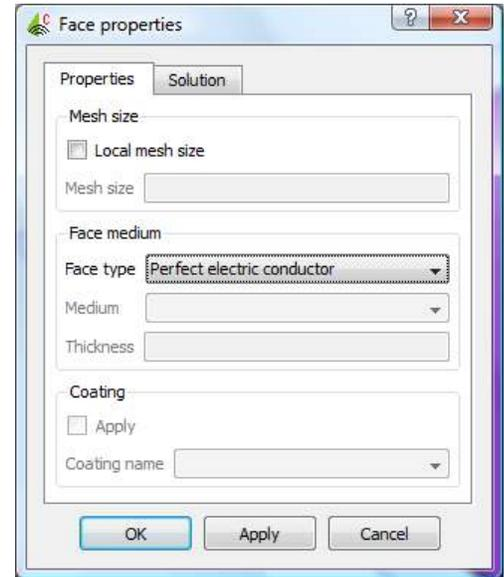

Figure 12.
15. After the “Union” function, the properties of the metals get changed to that of the volume; i.e becomes a dielectric. Thus, we need to change the properties of the Patch and GND faces to “PEC” again. To do this, from the side menu, Click on “Union1”, and then from the bottom menu, expand the “Faces” tree. Start clicking on the faces one after the other to identify the patch and GND faces. This occurs by observing the highlighted portions on the 3D geometry. Once you find a desired face, i.e. Patch, right click on that face, and choose “Face Properties”, then change the “Face Medium” to “Perfect Element Conductor”, hit “Apply”. Repeat for the other face(s). This is shown in Figure 12.